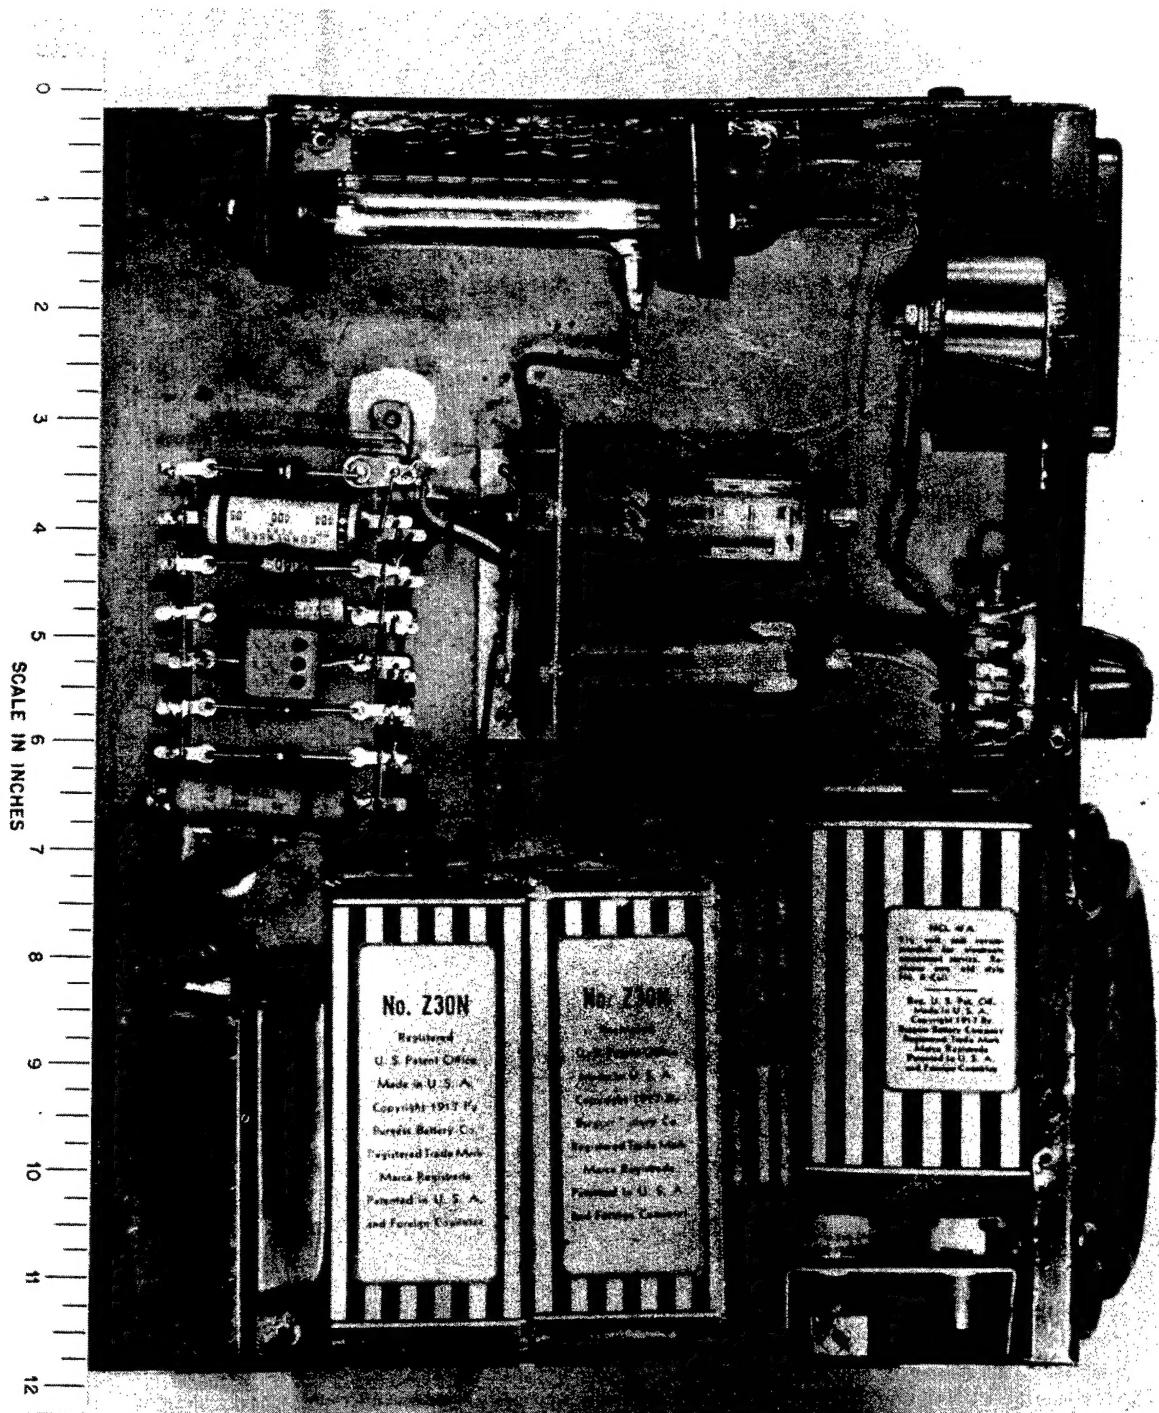
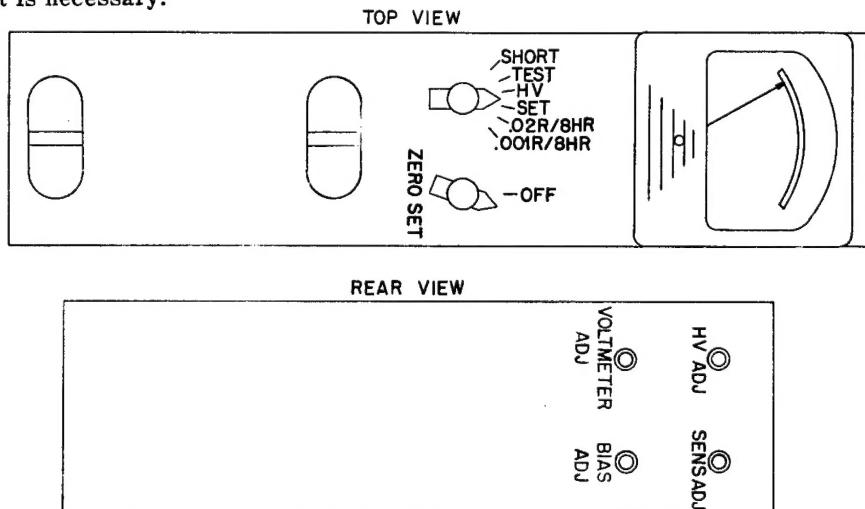

Figure 2. Inside view of portable GM tube survey meter.
Figure 3. Diagram showing location and position of labels for portable GM tube survey meter.
The following report gives an explanation of the electrical operation of the Portable GM Tube Survey Meter. Also included is a schematic diagram (Figure 1), photograph (Figure 2), diagram showing location and position of labels (Figure 3) and parts list. The development of the Portable GM Tube Survey Meter is due largely to the work of W. H. Hinch.
2. The physical layout must be approximately as shown in the photograph (Figure 2).
3. The labeling for the selector switch, zero set adjustment, bias adjustment, sensitivity adjustment, voltmeter adjustment, and high voltage adjustment is to be as indicated on the included drawing which shows the location and position of the labels (Figure 3).